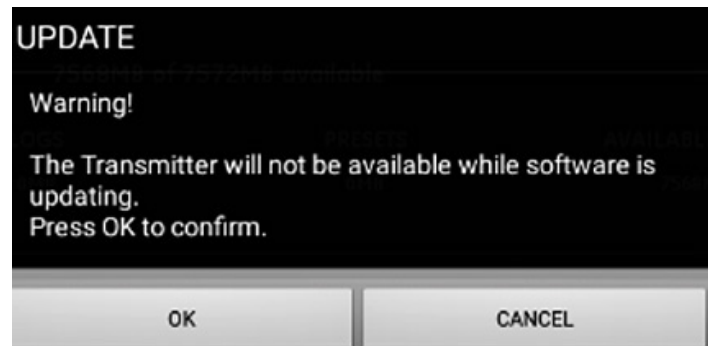

Figure 122: Update confirmation screen
5. At the screen shown in *Figure 122* below, click the OK button to confirm the update and continue.